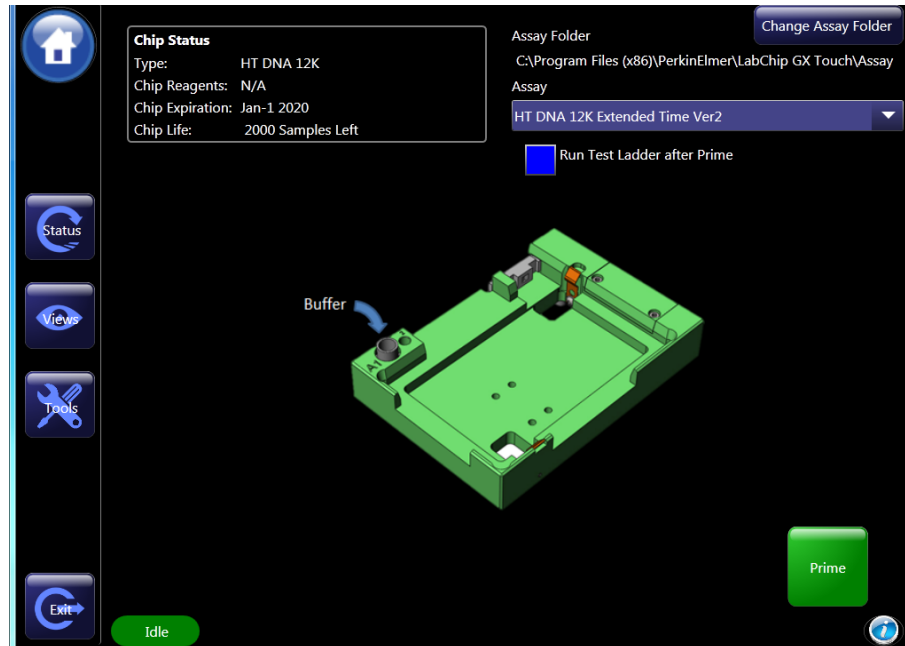

Figure 7. Chip priming screen.
- 1 Touch the *Run* button (see Figure 7).